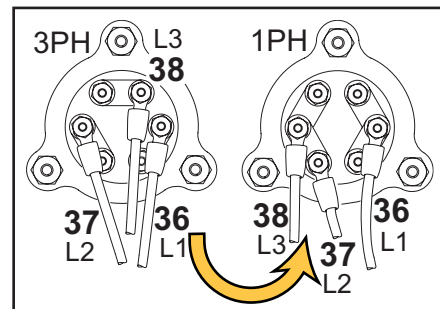

Fig. 16 - Reposition Jumper Wires for 1PH Booster Heater Element
3. Connect the #36 wire to one element terminal as shown (see Fig. 16).